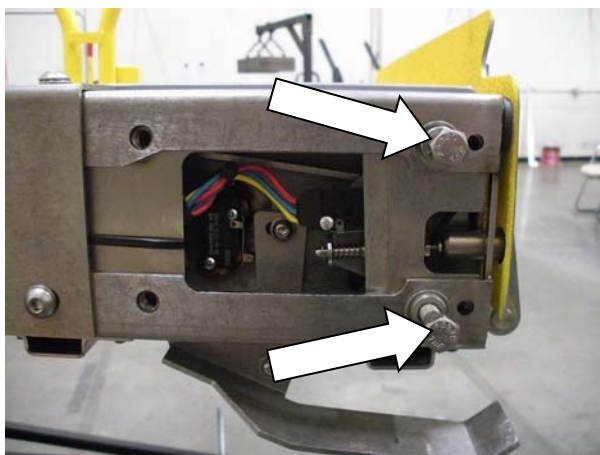

FIGURE 4-16: LH GUIDE BLOCK AND LH PLATFORM ROLLSTOP SWITCH COVER
- 4) Re-install two forward bolts to hold Switch Assembly in place as shown in Figure 4-16.